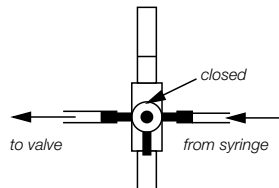

fig. 8
- To release all air from the test assembly, turn the three-way faucet as shown in fig. 8.
- Turn the three-way faucet as shown in fig. 8 so that the manometer is isolated.